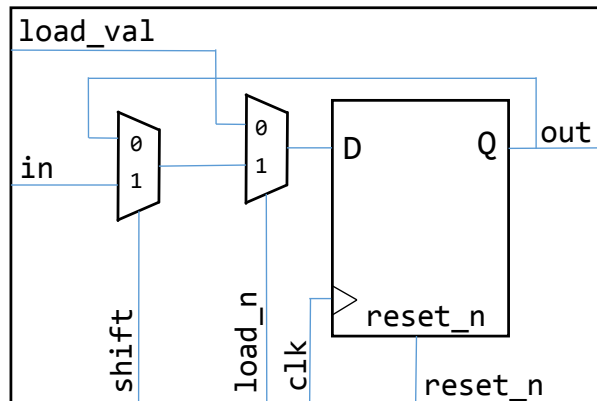
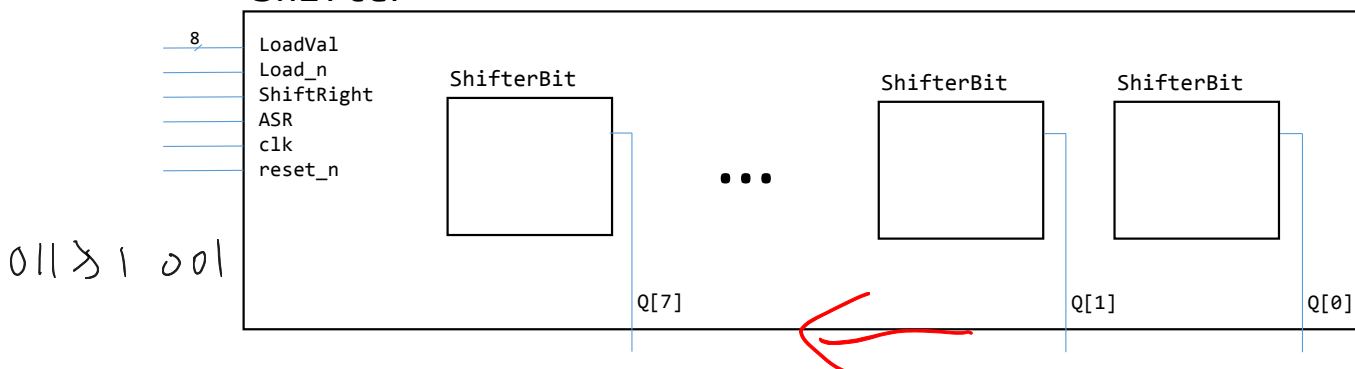

Figure 5: Single-bit shift-register
Figure 6: 8-bit shift-register of Part III. **None** of internal connections are shown here.
In this part of the lab, you will create an 8-bit shift-register that has an optional arithmetic shift. A shift register is a collection of flip-flops that move values **sequentially between each other on each clock edge**. Figure 5 shows one bit of this shift-register. It contains **a positive edge-triggered flip-flop and two multiplexers**. To create an 8-bits shift-register, you will use eight instances of the circuit in Figure 5 to design your 8-bit shift-register with optional arithmetic shift and parallel load as shown in Figure 6.
In the Shifter module, create an 8-bit-wide register input **LoadVal**, whose individual wires are connected to **load\_val** input of **ShifterBit** instances. Likewise, create an 8-bit-wide output **Q**, which is the **output of ShifterBit** instances. The **shift** input of all eight instances of the circuit in Figure 5 should be connected to the **single input ShiftRight**. The same thing applies to **load\_n**, **clock (clk)**, and **reset\_n**.
The **in** input of seven instances should be connected to the **out** port of the instance to its left. For the leftmost **ShifterBit**, you should design a circuit that will **perform sign-extension** when the signal **ASR** is high (arithmetic right shift) or **load zeros** if **ASR** is low (logic right shift). This special circuit is not shown in Figure 6.
1. What is the behaviour of the 8-bit shift register shown in Figure 6 when  $Load\_n = 1$  and  $ShiftRight = 0$ ? Briefly explain in your prelab. **(PRELAB)**
2. Draw a schematic for the 8-bit shift register shown in Figure 6 including the necessary connections. Your schematic should contain eight instances of the one-bit shifter shown in Figure 5 and all the wiring required to implement the desired behaviour. Label the signals on your schematic with the same names you will use in your Verilog code. **(PRELAB)**
3. Starting with the code in Figure 2 for a positive edge-triggered D flip-flop, use this D flip-flop with instances of the *mux2to1* module from Lab 2 to build the one-bit shifter shown in Figure 5. To get you started, Figure 7 is a code snippet that shows how the D flip-flop will be connected to one of the 2-to-1 multiplexers. **(PRELAB)**